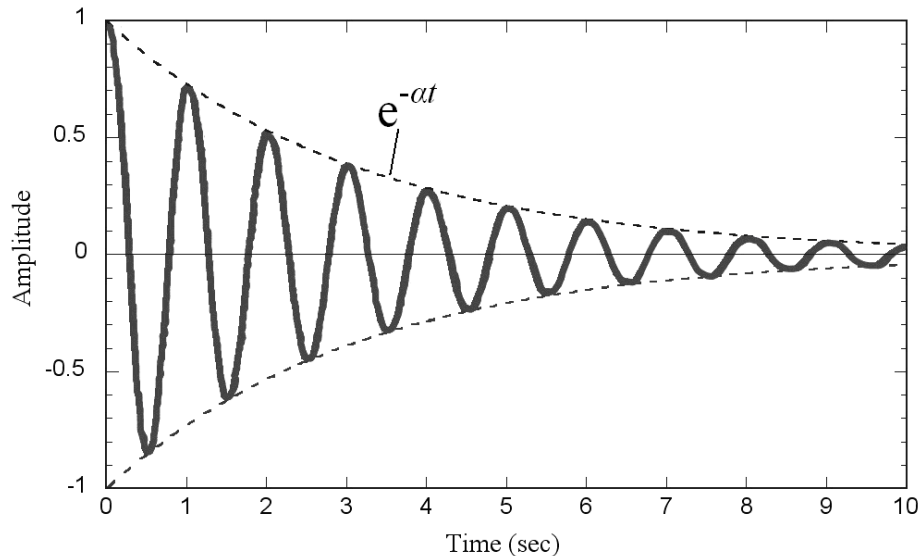

Figure 2: Underdamped Motion. The oscillations are damped by the exponential term.
We will study underdamping in this experiment, so the motion will look like that shown in Figure 2. This motion is described by
The angular frequency  $\omega$  term in Eq. (9) is slightly different than the free frequency of Eq. (5), but the difference is too small to be seen in our experiment (so we will ignore it). The  $\cos \omega t$  term is observed in Figure 2 (oscillating term), but the amplitude of each oscillation becomes smaller due to the exponential damping term  $e^{-\alpha t}$ .